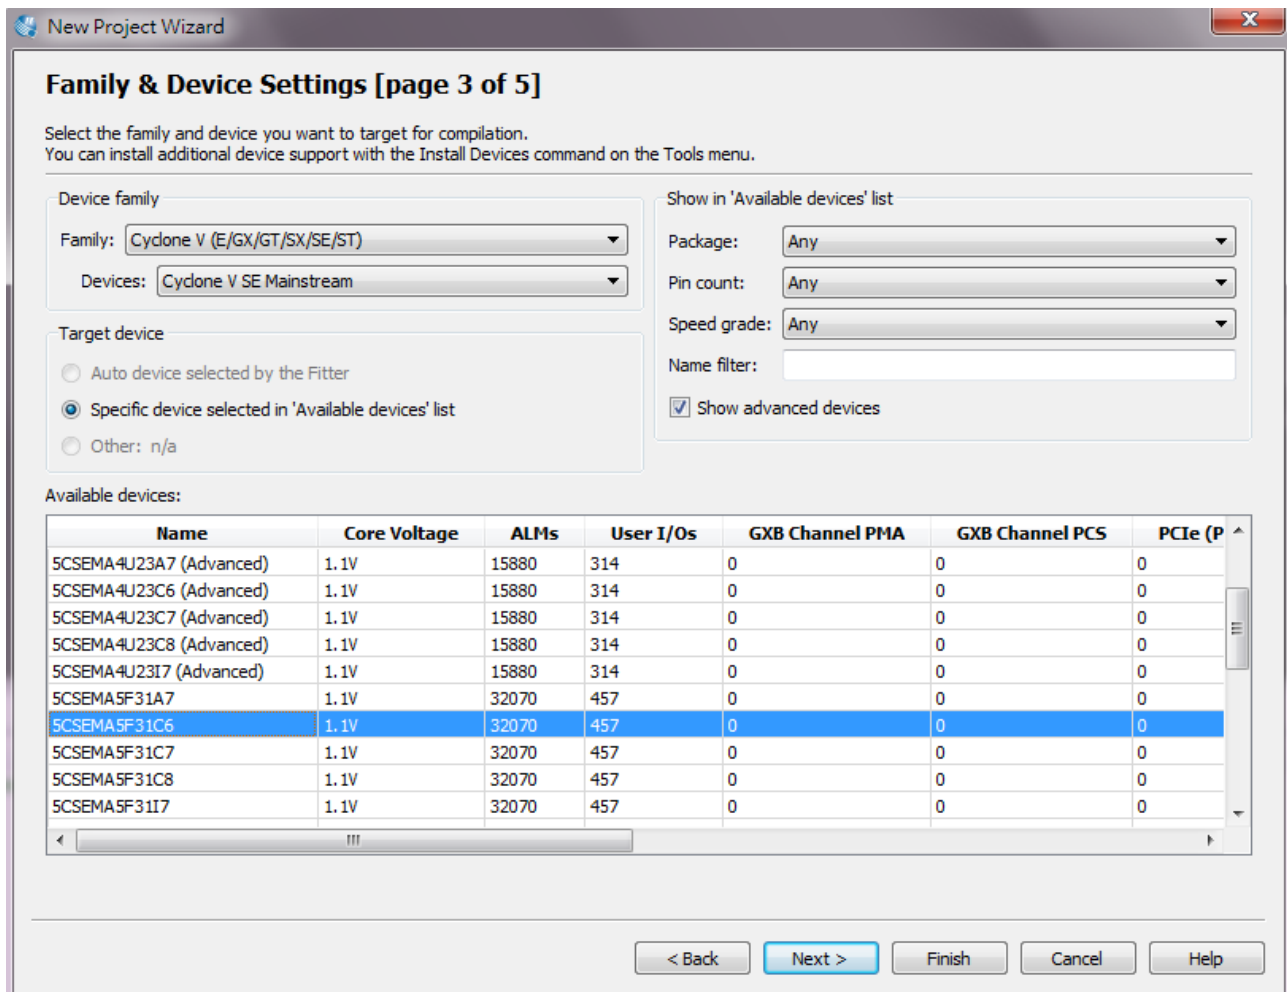

Figure 2-3 Specify the Device Example
g. You will assign a specific FPGA device to the design and make pin assignments. See **Figure 2-3**.